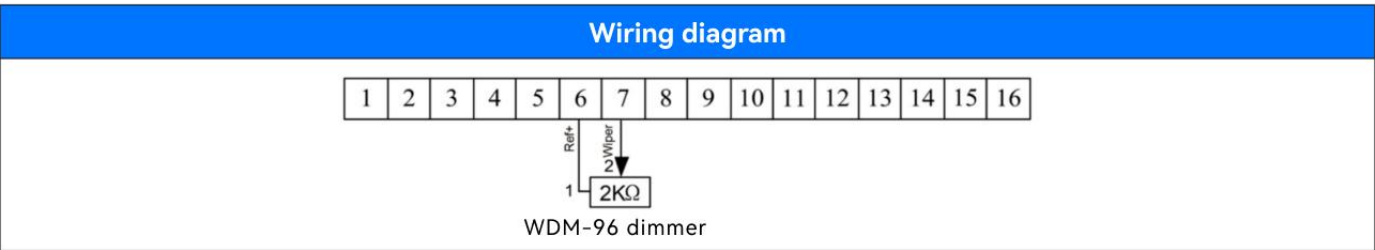

Figure 1.4
2. It is used to connect cables to the WLF-70, such as azimuth control lever, as shown in Figure 1.4.